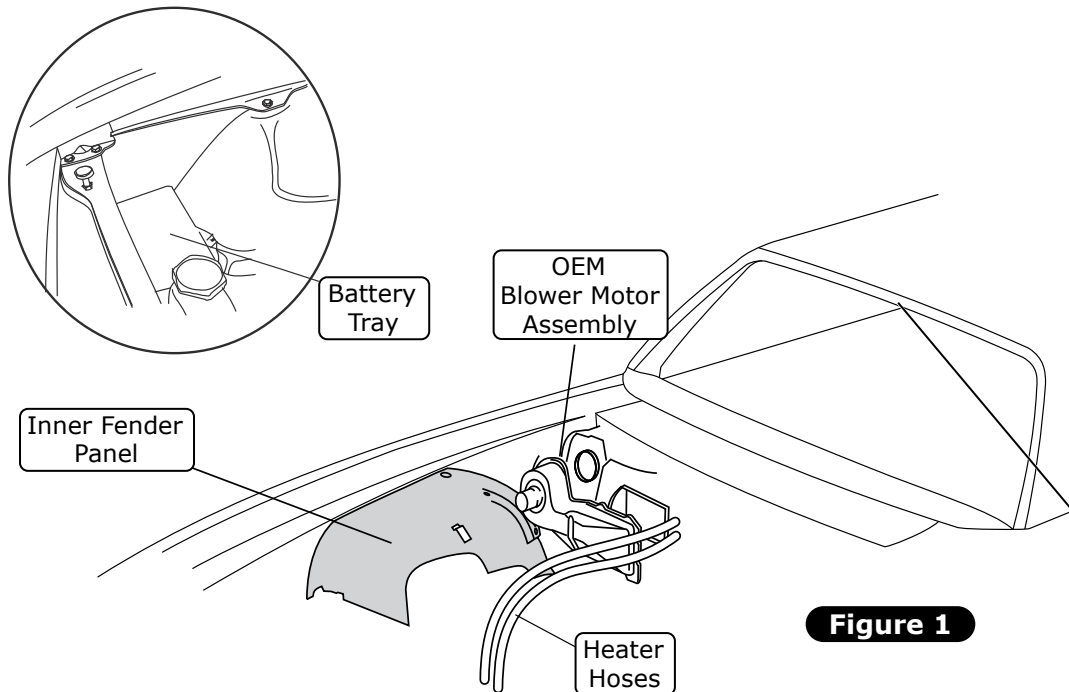

Figure 1
2. Remove the battery and battery tray (retain) (See Figure 1, below).
5. Remove the OEM heater hoses (discard) (See Figure 1, below).
6. Remove the OEM heater wiring (discard) (See Figure 1, below).